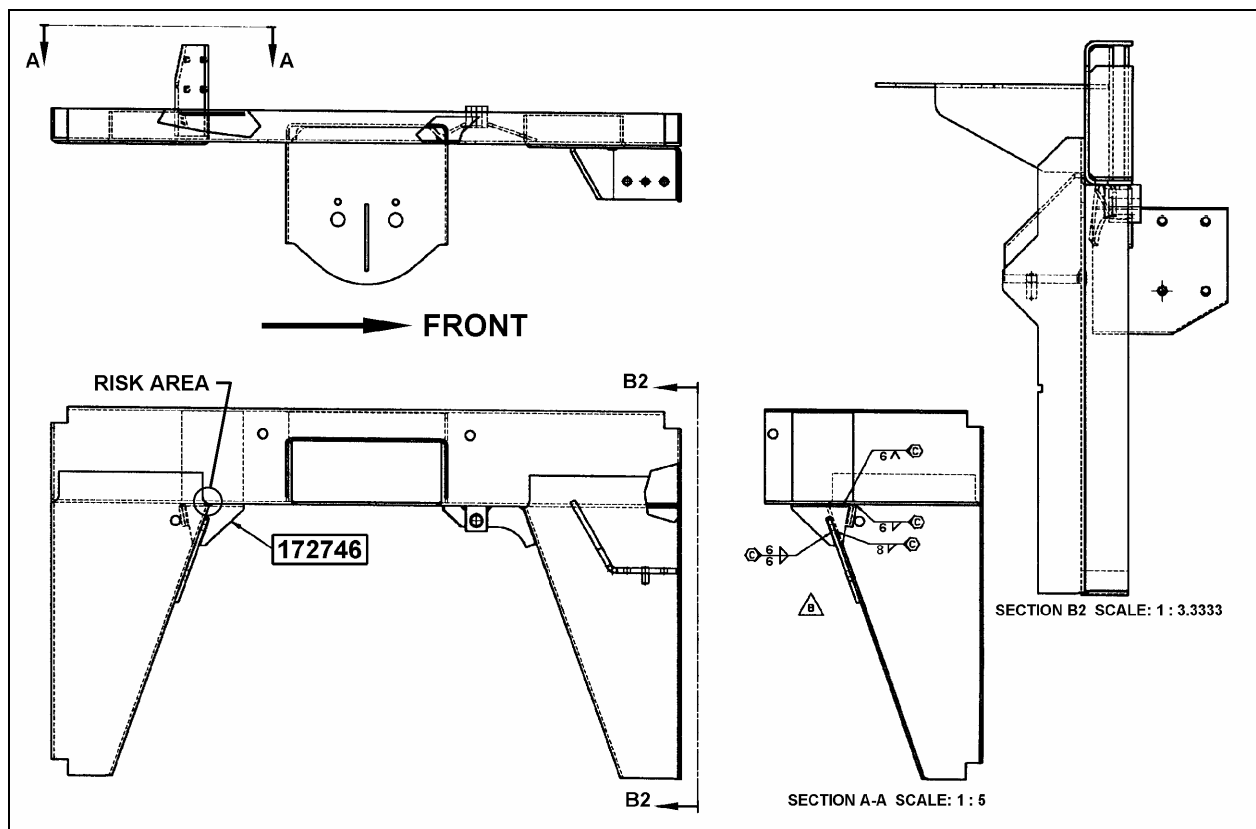

FIGURE 2: INSTALLATION OF REINFORCEMENT PART 172746 ON R.H. SIDE RAIL
5. Remove asphalt base undercoating (Gravel Guard 3M) and any rust present near the risk or affected area, the risk areas are located near the sway bar four rubber bushing collars (refer to figures 2 and 3).
6. Check if front subframe is cracked, check if cracks are superficial by grinding the affected area to make the cracks disappear. If cracks are only superficial, chip off or grind to bare metal then weld crack referring to paragraph: **Steel – Steel Welding**. Weld reinforcement parts referring to figures 2 and 3 welding specifications
7. If no cracks are present on front subframe, weld reinforcement parts referring to figures 2 and 3 welding specifications.
5. Weld reinforcement parts as per figure 2 and refer to paragraph: **Steel – Steel Welding** for welding specifications: